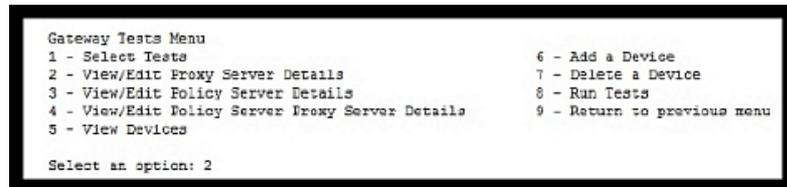

Figure 161 Gateway Tests Menu - Running Tests
- Return to the Gateway Tests Menu, as shown in Figure 161 on page 138, and select option 8 to run the tests you selected.